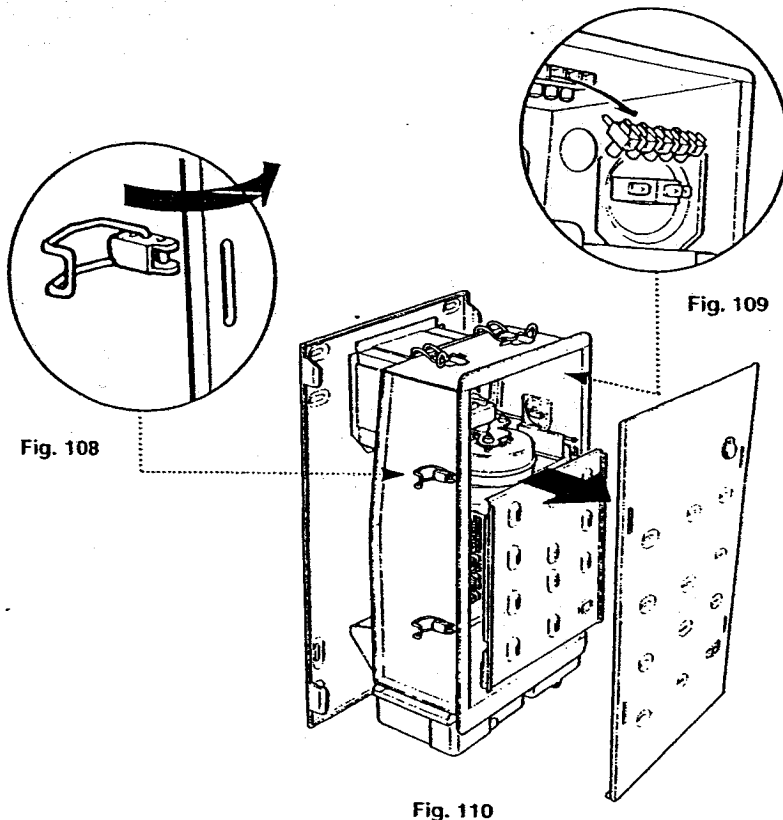

Fig. 110
2. Release the four latches holding the combustion box door (Fig. 108). Remove the combustion box door by pulling forward from the bottom and unhooking its top edge (Fig. 110).
3. Release the 5-pin electrical plug connecting the pressure switch and fan (Fig. 109). Withdraw the fan assembly by pulling forwards from the top edge (Fig. 110).